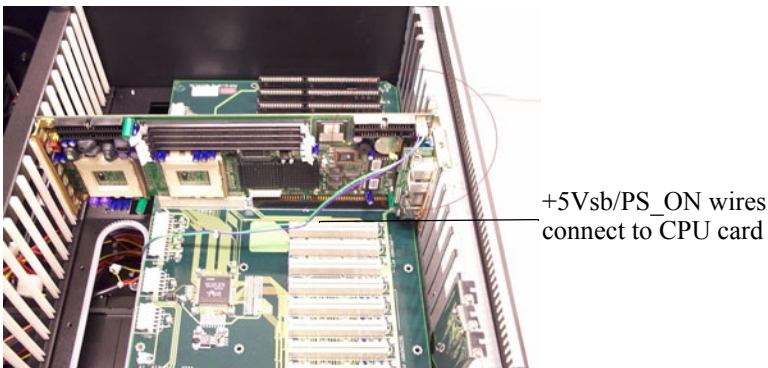

Figure 2.7: Installing a full-length CPU card
3. Insert the CPU card or add-on card vertically into the proper slot (See Figure 2.7). For full-length cards, please make sure that the card bracket has been inserted properly and the other edge of the card has been inserted into the plastic guiding fillister. Fasten the card with the screw on top of the I/O bracket.